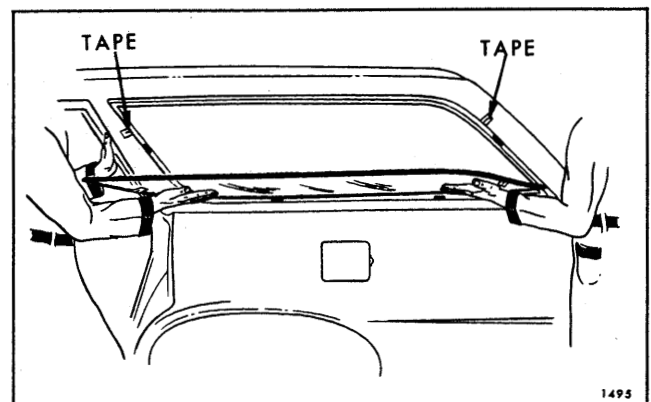
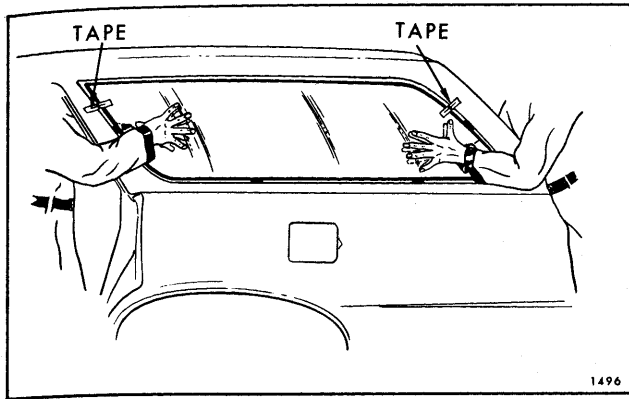

Fig. 8-22—Stationary Quarter Window Installation
Fig. 8-23—Stationary Quarter Window Installation
4. Position glass in opening by making contact along upper edge first and then swing in lower edge (see Fig. 8-22 and 8-23).
- 7. After final adjustments have been made and glass is in proper position, apply a piece of masking tape horizontally over front and rear edges of glass and body pillars (Fig. 8-23), so that tape on glass can be aligned with tape on body and act as a guide when glass is installed.
- 14. Install glass (see Fig. 8-22 and Fig. 8-23). Make certain that glass sets properly on spacers and does not have to be shifted after material contacts pinchweld flange. Align tape on glass with tape on body to guide window into opening.